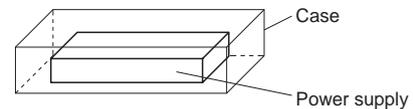

Fig.3.2 Installation example
■There is a possibility that it is not possible to cool enough when the power supply is used by the sealing up space as showing in Figure 3.2. Please use it after confirming the temperature of point A and point B of Instruction Manual 3.2.